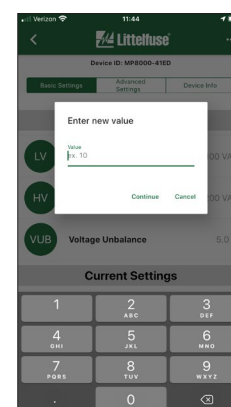

Figure 6
- e. A popup box will appear in which the numerical setting can be entered. Enter the setting and press "Save." (See Figure 6)